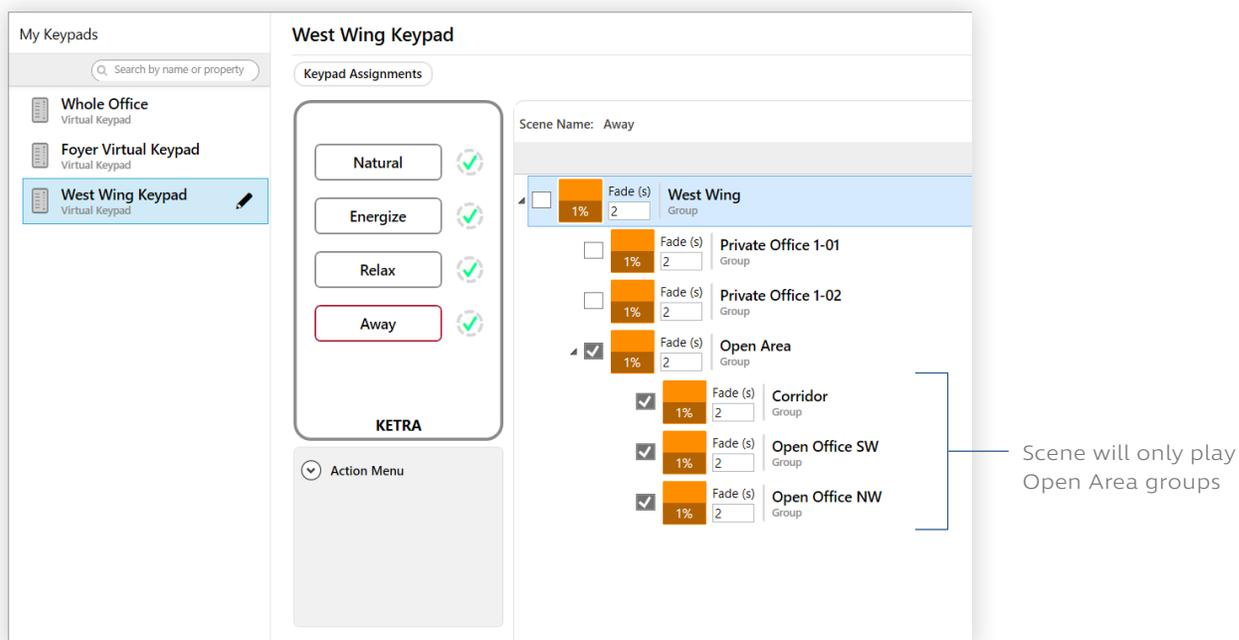

fig. 8
- **Ketra keypad buttons** - Ketra keypads can only control their own part of the grouping hierarchy, i.e., their own groups and subgroups. You can further narrow this by picking which subgroups to apply the scene to whenever a given button is pressed. In fig. 8, pressing the keypad's "Away" button will play the *Away* scene on the **Open Area** group and its subgroups. Note that the **West Wing** group is not the highest-level group in the installation; the keypad only has a subset of the larger grouping hierarchy.